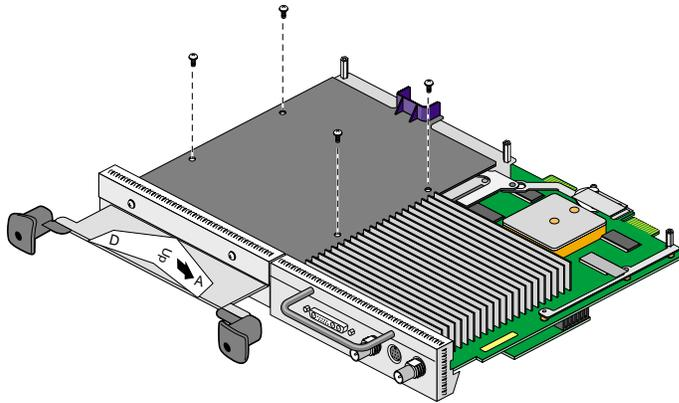

Figure 5-14 Removing the Screws from the Blank Panel
- Using the supplied Phillips screwdriver, remove the screws from the option board or blank panel, as shown in Figure 5-14.